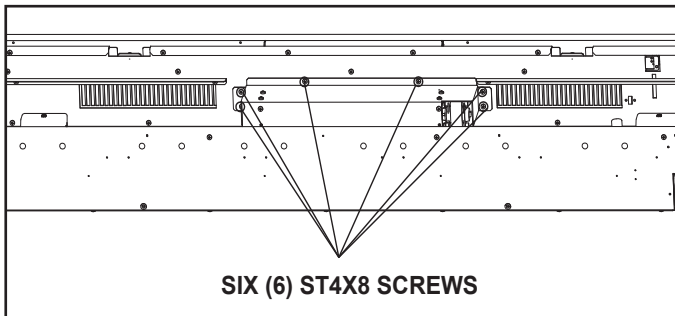

Figure 18 Heater Assembly Screw Location (bottom view)
1. Remove six (6) ST4X8 screws on the heater top securing to the bottom of the appliance. See Figure 18.